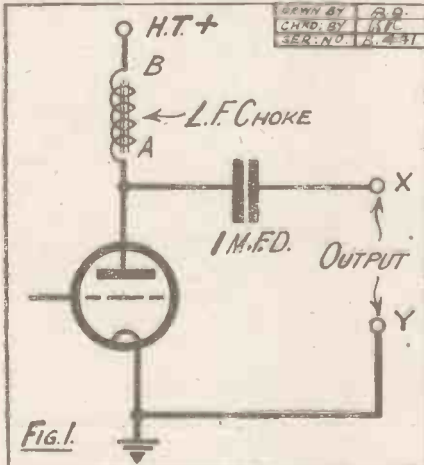

Fig. 1.
First, as one of the loud speakers was to be so far removed from the set, it was decided that a double wire extension would be undesirable, and the set was accordingly altered so as to comprise a choke filter circuit. That is to say, whereas the loud speaker had previously been connected between the points A and B in Fig. 1, an ironcore choke of 32 henries was wired as shown, and a 1 mfd. fixed condenser was connected from A to the negative output terminal of the set (marked X). The other output terminal of the set (Y) was connected to earth.